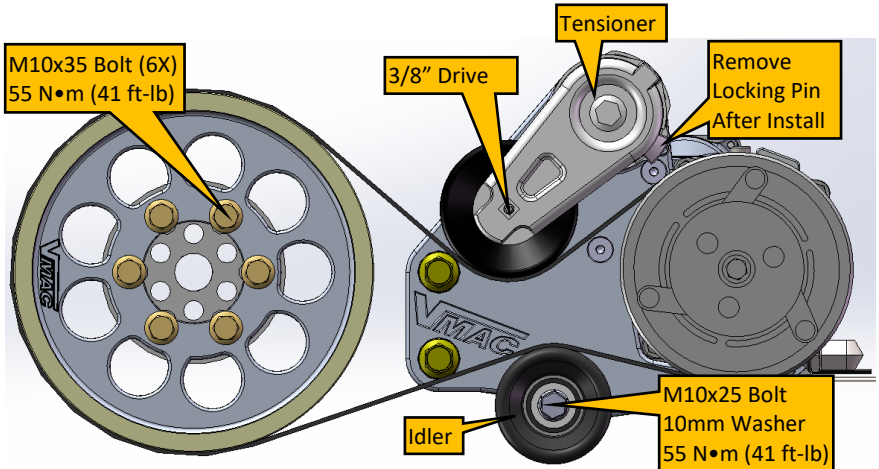

Figure 4 - Compressor Belt Routing
- Install the idler as shown in Figure 4 using the M10x25 bolts and washers provided.
- Install belt and route as per Figure 4.